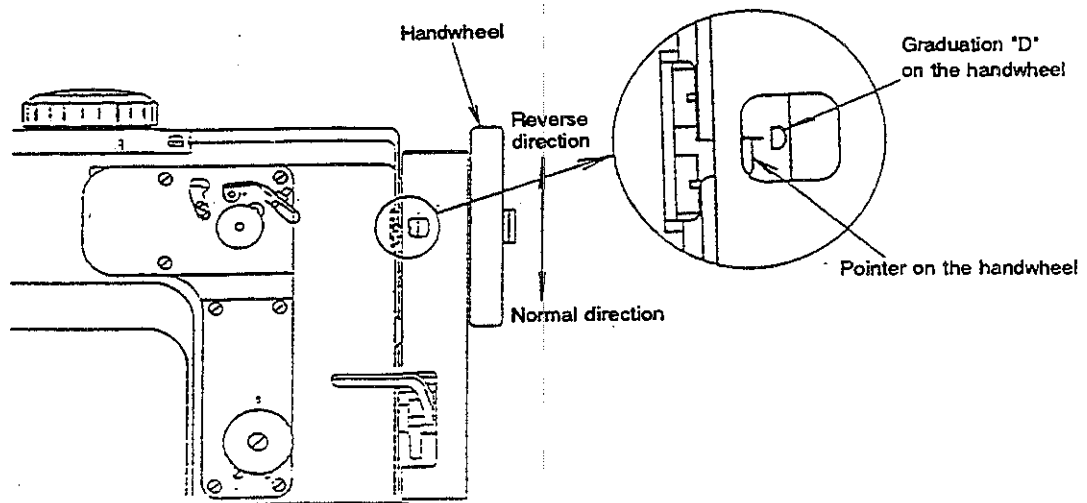

Fig. 3
<p>(1) Tilt the machine head, and make the head support bar hold the head at that position.</p> <p>(2) Move the moving knife forward by hand until it will go no further. (Fig. 1) (Draw the moving knife forward from its initial position. While turning the handwheel by hand, and the moving knife will move.)</p> <p>(3) Put a thread (tetron #8) onto the thread eyelet of the moving knife. (The thread should be held slackened until the machine completes thread trimming.)</p> <p>(4) Turn the handwheel slowly by hand in the normal direction of rotation. (Fig. 3)</p> <p>(5) The moving knife engages with the counter knife, and the knives trim the thread. Now, stop turning the handwheel.</p> <p>(6) Turn the handwheel from the position described in step (5) slightly in the reverse direction of rotation. Turn it to the extent where the thread trimmer cam does not come in contact with the thread trimmer cam roller. (Fig. 2)</p> <p>(7) Loosen screw ② in the thread trimmer cam. (Fig. 2)</p> <p>(8) Securing the thread trimmer cam by hand so that it does not come in contact with moving knife driving arm A, turn the handwheel until the graduation "D" on the handwheel meets the handwheel pointer. (Fig. 2)</p> <p>(9) In the state described in step (7), turn the thread trimmer cam until it slightly come in contact with the cam roller of moving knife driving arm A. (Fig. 2)</p> <p>(10) Tighten screw ② in the thread trimmer cam. (Fig. 2)</p> <p>(11) Check that the timing of thread trimming action has been properly adjusted. Repeat the steps (3) and (4), and make the sewing machine perform thread trimming. Now, check that the graduation "D" on the handwheel meets the handwheel pointer since they meet with each other if the timing of thread trimming action has been properly adjusted.</p> <p>(12) Loosen screws ⑥ in the thread trimmer cam scale plate. (Fig. 2)</p> <p>(13) Turn the thread trimmer cam scale plate, align the marker line (the center line of the five marker lines) engraved on the thread trimmer cam scale plate with the marker line engraved on the thread trimmer cam. (Fig. 2)</p> <p>(14) Tighten screws ⑥ in the thread trimmer cam scale plate.</p>	<p>☆ If the timing of thread trimming is too early:</p> <ul style="list-style-type: none"> • The length of thread remaining at the needle after thread trimming will be insufficient. As a result, the thread may slip off the needle eyelet at the sewing start or after thread trimming. • Stitch skipping may occur at the start of sewing. <p>☆ If the timing of thread trimming is too late:</p> <ul style="list-style-type: none"> ○ Thread trimming failure may result. <p>(8)' Refer to "(1) Kinds and names of graduations on the handwheel" on page 3.</p> <p>(12), (13), (14) The thread trimmer cam scale plate is used when changing the adjustment value from the standard one to the special one.</p>
(10) Opener